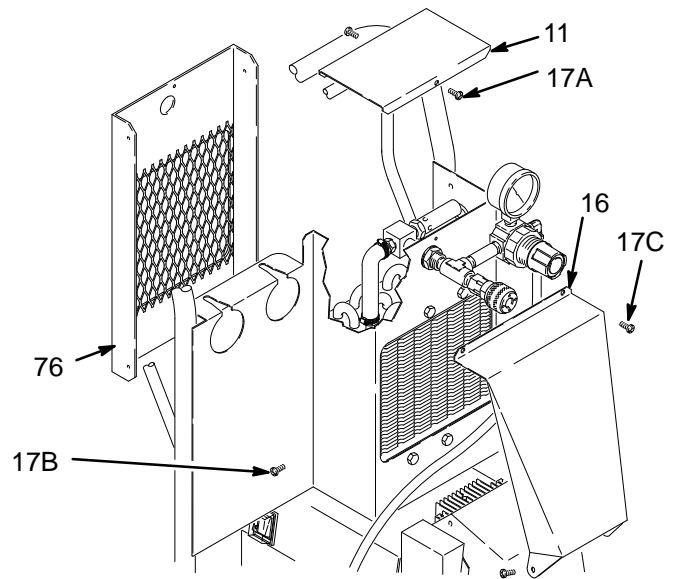

Fig. 14
3. Remove the screws (17A) and top cover (11). See Fig. 14.
4. Remove the screws (17B) and back cover (76). See Fig. 14.
5. Remove the screws (17C) and front cooler cover (16). See Fig. 14.